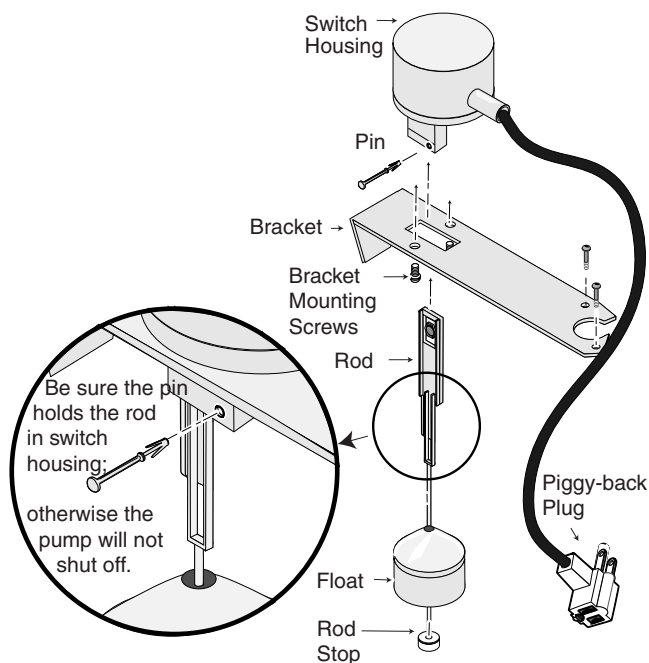

Figure 2 – Replace the Float Switch.
1. Mount the bracket on the switch housing with the bracket mounting screws. See Figure 2.
3. Slide the rod up through the bracket and into the slot in the bottom of the switch housing. Fasten the rod into the switch housing with the pin. See Figure 2.